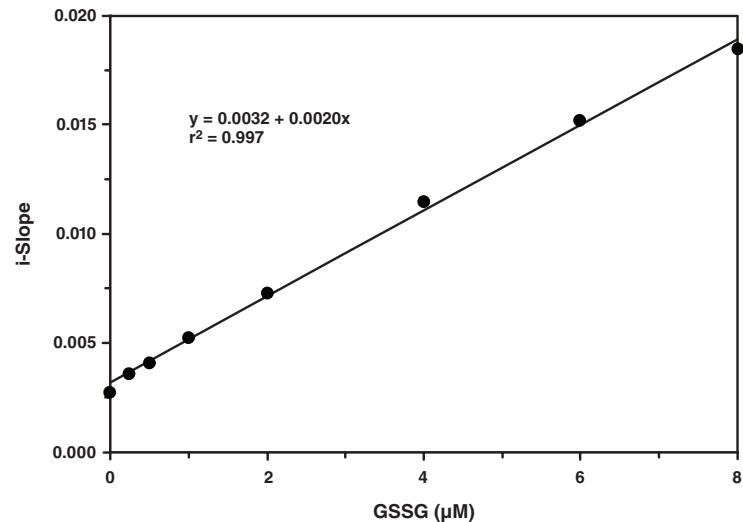

Figure 5. Plot of slope versus GSSG concentration
2. Plot the i-slopes of each standard as a function of the concentration of GSSG or total GSH of Table 1 (see Figure 5, below). The slope of this curve is called f-slope.